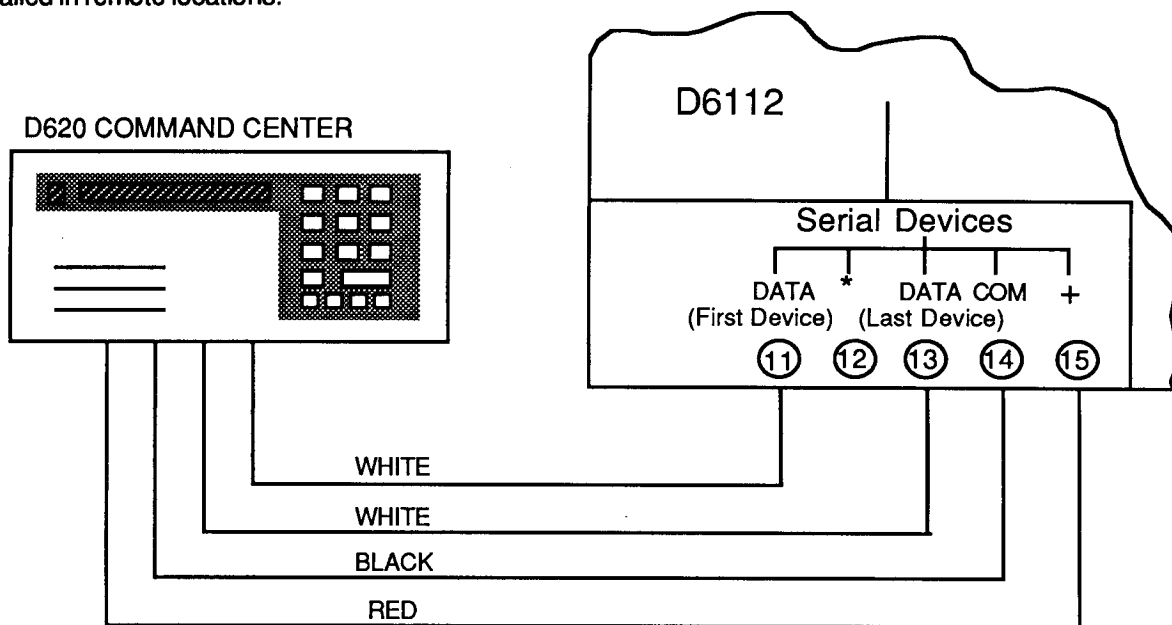
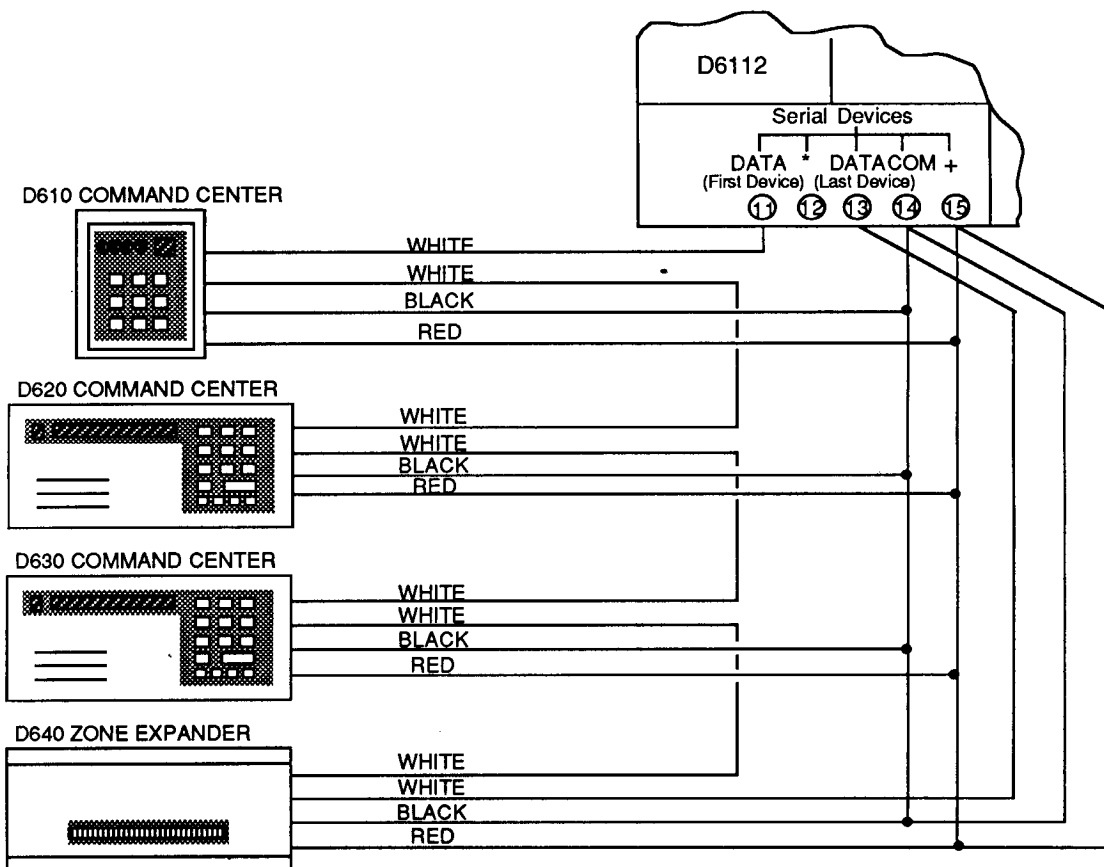
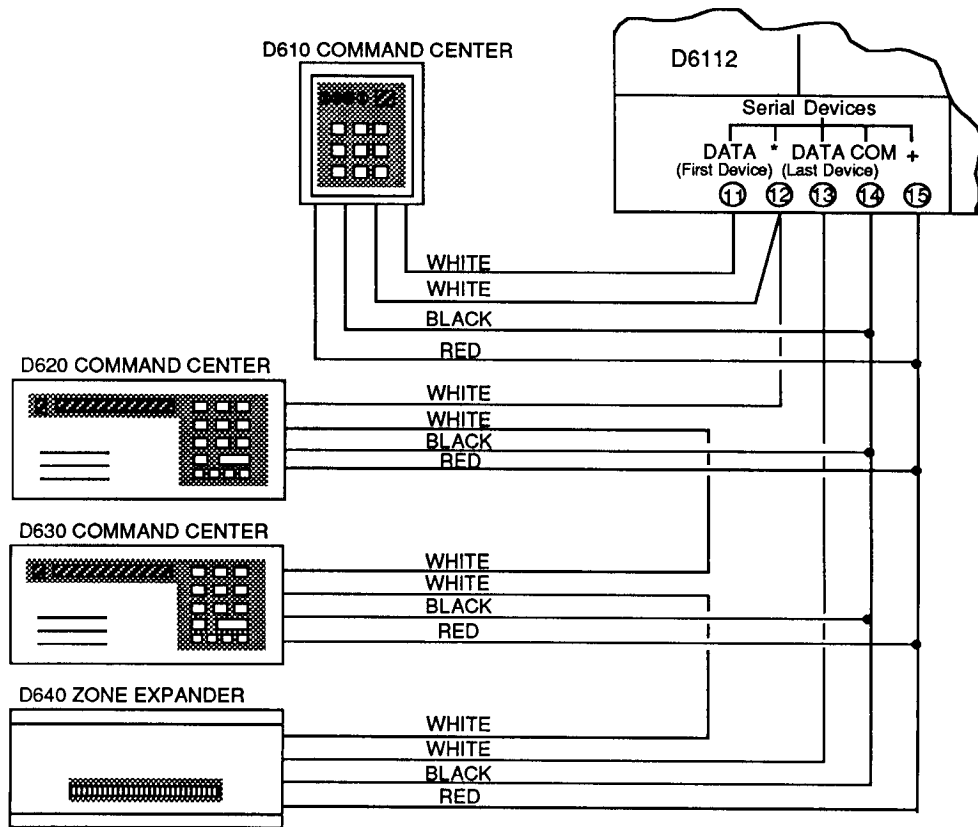
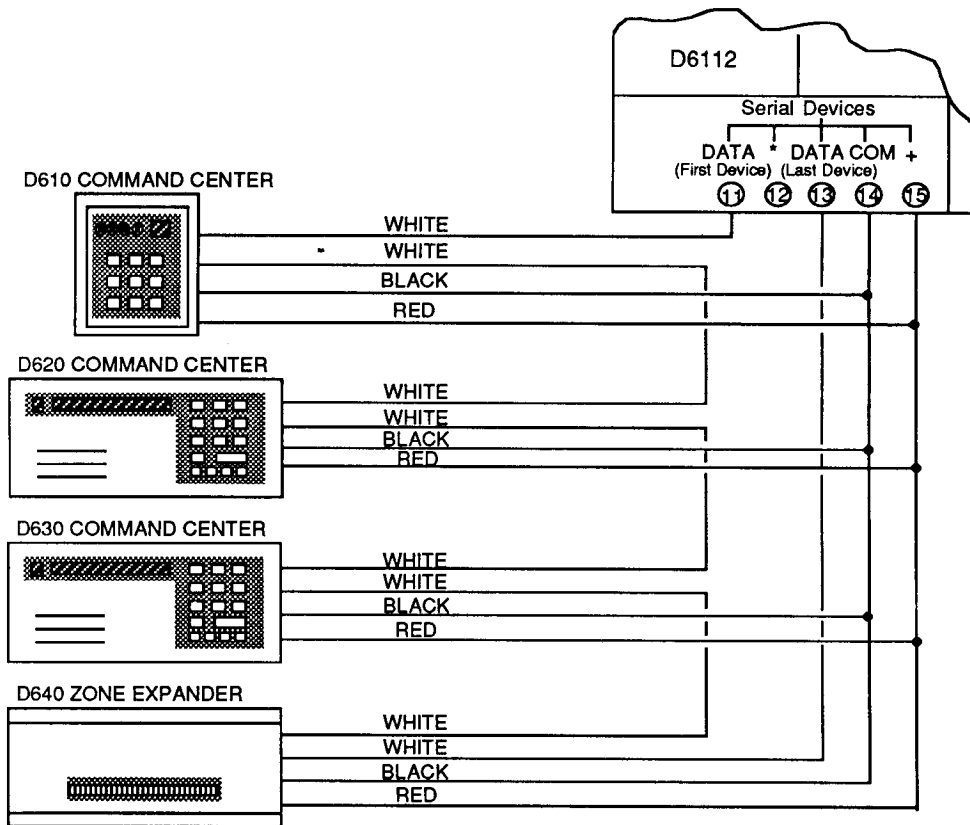

Figure 8: SINGLE DEVICE
Figure 9: RETURN LOOP WIRING
Figure 10a: FOUR DEVICES (ONE LOCAL)
Figure 10b: FOUR DEVICES (ALL REMOTE)
14.5 **Wiring the Serial Devices** - The cable used to connect the serial devices (command centers and zone expanders) to the D6112 can run no longer than 1000 feet when using 22AWG. The wire run between serial devices can be no more than 300 feet. Figure 8 depicts a typical installation using one D620 Command Center. Figure 9 illustrates an installation with four remote devices using return loop wiring techniques. Figures 10a and 10b illustrate installations with four devices connected to the Control/Communicator. Figure 10a displays one command center installed near the Control/Communicator and three devices installed in remote locations. Figure 10b illustrates an installation with all four devices installed in remote locations.